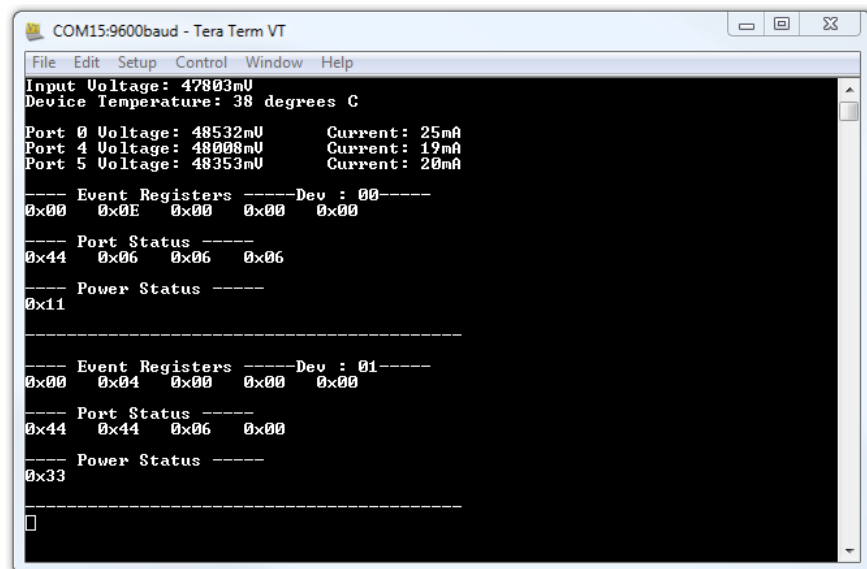

Figure 10. Terminal Response With Connected Ports
12. The TPS2388EVM-612 is now waiting for a PD load to be installed. As ports are installed, the firmware automatically detects, classifies, and powers up the port as shown in Figure 10. Port status is updated on the screen approximately every 10 seconds.